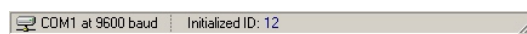

Figure 4.7: Status bar
- Status bar* (fig. 4.7)
The *status bar* (fig. 4.7) shows the current communication properties and status as well as the settings of the communication interface, and the number and ID of the initialized modules.